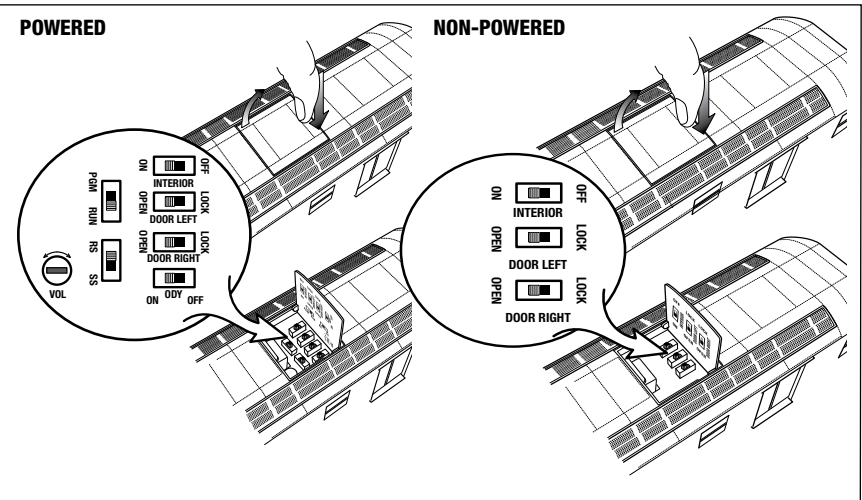

Figure 3. Switch locations
To open the left side doors, press **AUX1**, **F**. To closed the doors, press **AUX2**, **F** then **AUX2**. To open the right doors, press **AUX1**, **R**. To close the doors, press **AUX2**, **R** then **AUX2**. You may choose to lock the doors from opening on a certain side using the switches located under the roof-top hatch on each car. The switches are illustrated in Figures 3 on page 12.
**E**ach car features a lighted interior, and opening doors. In the TMCC environment, the doors are opened and closed using the CAB-1 Remote Controller. To open the left side doors, press **AUX1** and **F**. To open the right side doors, press **AUX1** and **R**. To close the doors, press **AUX2, F, AUX2**. You may choose to lock the doors from opening on a certain side using the switches located under the roof-top hatch on each car. The switches are illustrated in Figure 3 on page 12.
1. Slide the Command reverse unit switch on your Subway to the PROG position. See Figure 3 on page 12.
Use the **HORN** button on your transformer to sound the horn. Refer to page 25 if your transformer is not equipped with these buttons. Adjust the volume using the volume control knob located under the hatch on the roof of the powered unit. Refer to Figure 3 on page 12.
**We recommend that you operate your LEGACY Subway with The Odyssey II Speed Control System turned on.** You may choose to operate your Subway without speed control by placing the Odyssey II Speed Control System switch to the OFF position. See Figure 3 on page 12.
3. Slide the Command reverse unit switch to the PROG position. At this point, the Subway is “locked” into your chosen direction. See Figure 3 on page 12 for the location of this switch.